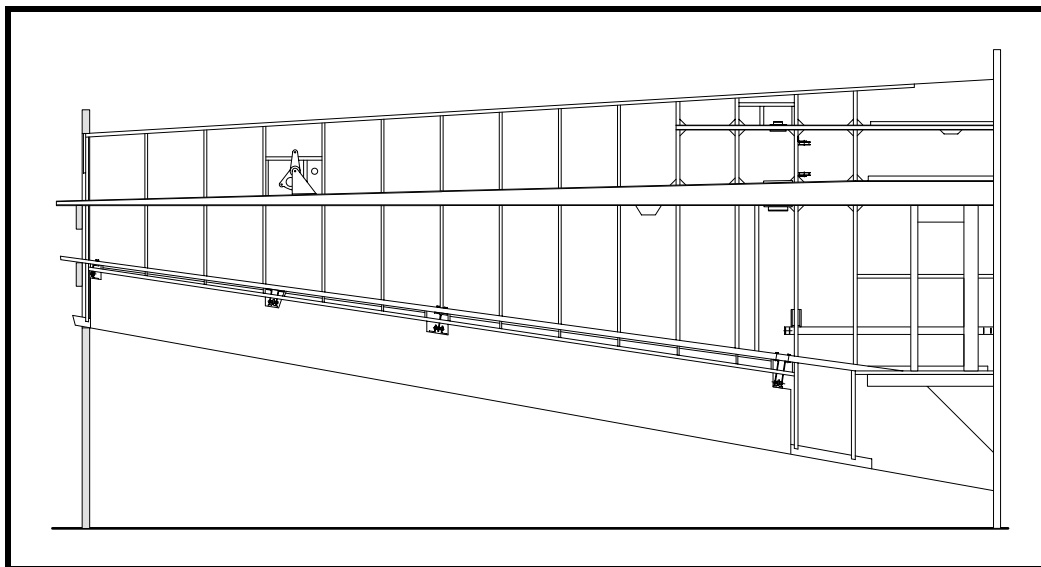

Figure 25
- ❑ For wheel well door installation—fit the four seat supports in place. See Figure 25. Remember the inboard supports are 60x15 and the outboard supports are 30x15.
- ❑ For wheel well door installation—fit the 75x15 spruce strip between the inboard and outboard seat support as shown in Figure 25. This is shown in Detail A, Drawing No. 201.